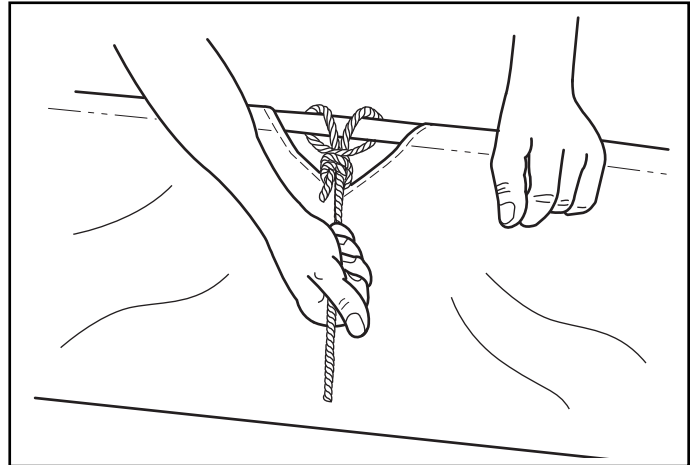

FIGURE 19
STEP 15: (SEE FIGURE 19 AND 20)